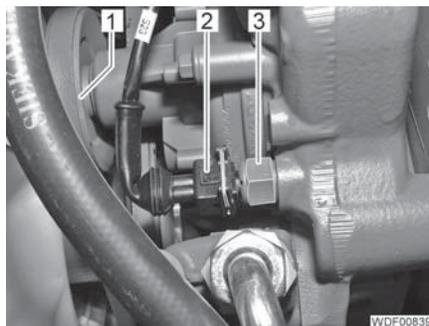

Fig. 432 Temperature sensor
- Remove the plug (Fig. 432,1).
- Unscrew the temperature sensor (Fig. 432,2) and close off the opening in the engine.